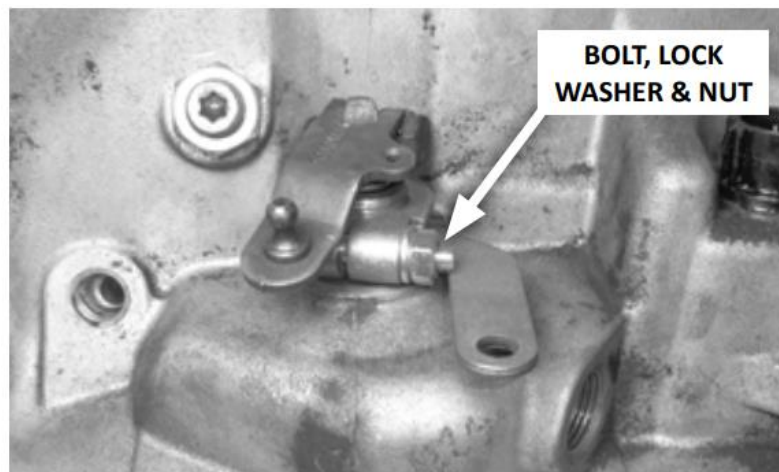

Figure 9
- 14.** Install the RTS selector lever using the 1/4"-20 x 1.50" bolt, spring washer and nut (figure 9). Be sure the lever is not pushed down against the transmission case, which could cause binding. The lever should travel smoothly back and forth, with a positive click in each position. Then reinstall the throttle lever and linkage, tighten its pinch bolt securely, and check for smooth operation.